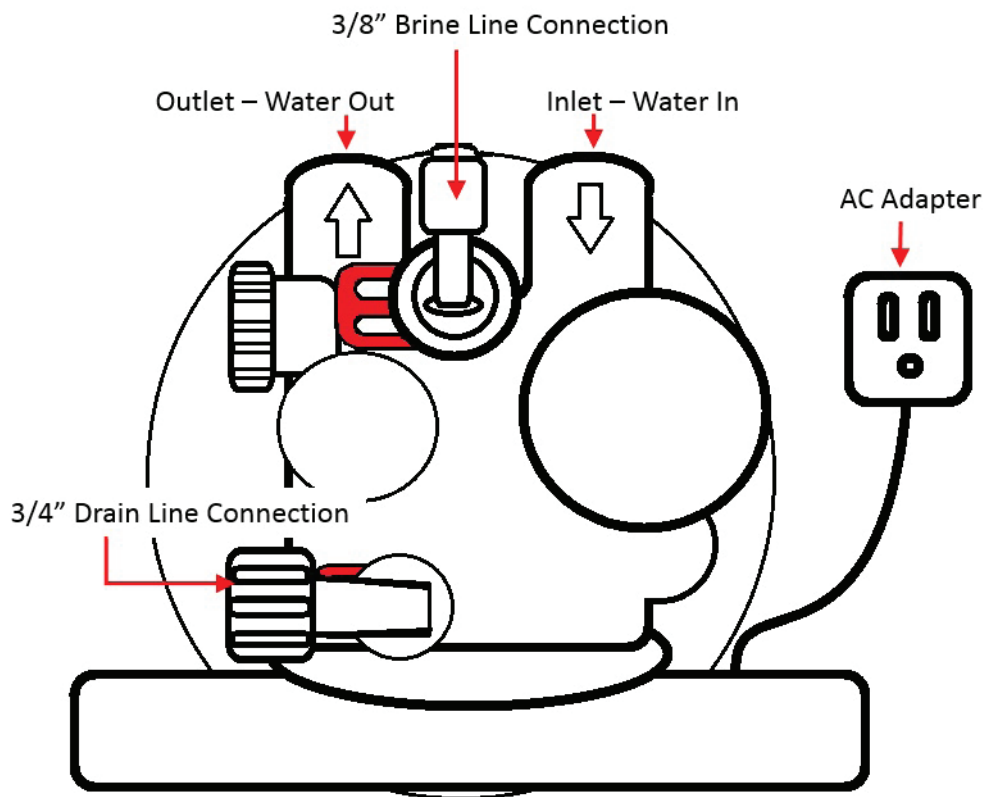

Figure 2
- Make sure to connect the inlet pipe to the Deluxe Softener inlet and the outlet to the Deluxe Softener outlet (see Fig 2). You can see the in and out arrows on the bypass valve which is where the pipes are connected. Unit will not work if connected backwards.
1. Install inlet and outlet piping, drain tubing, and brine line tubing (Fig 2). The brine line tube is included and is shipped inside the brine tank.